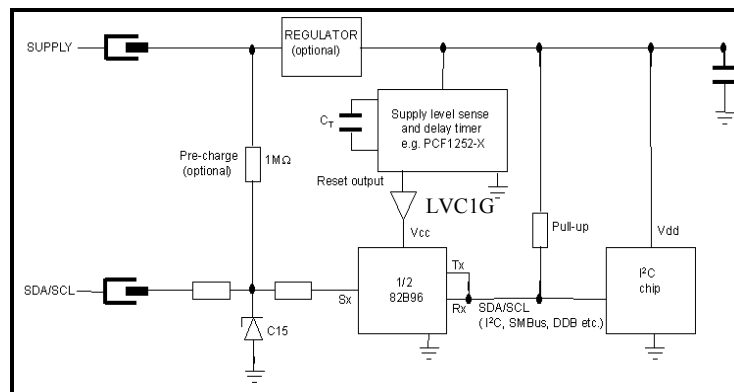

Figure 32. Hot Plug Example
**Answer:** The devices had to pass the usual qualification testing before release. Human Body Model testing today uses both polarity pulses in 500 V steps to 3500 V, source impedance 100 pF/1500 ohms, on all I/O pins. Machine Model tests run 1000 V with virtually no series resistance. That is severe, but still cannot compare with a human charged to 20 kV or even more! Design to withstand extremes of ESD requires attention to system design. PCB layout is important, the discharge paths for the 'lightning-like' high pulse currents are not always easy to predict. But the design of these bipolar devices means it is RELATIVELY easy to apply effective protection using external components when conditions justify this. Results from the qualification report for P82B96 show the breakdown voltage of the Sx pins ranged 27 V – 37 V at 5 mA. That is described as an LVceo or Vceo (sust) test where breakdown is first forced using a higher voltage and the device 'sustains' that voltage with 5 mA flowing. For the Tx pins the 5 mA LVceo mean value was 46 V. This means that the I/Os can be protected against quite extreme conditions by applying series resistors and shunt Zeners that can have relatively high voltages. The figure shows an example of a module that will be hot-plugged to a bus. The protection components are shown in Figure 32.